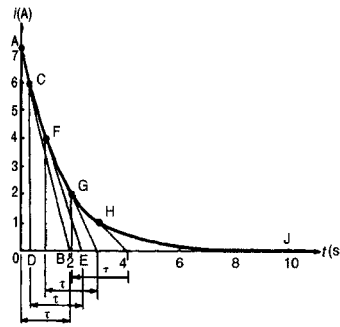

Figure 18.13
- (ii) With reference to Fig. 18.13, the initial slope is obtained by making OB equal to 1 time constant, (i.e. 2 s), and joining AB